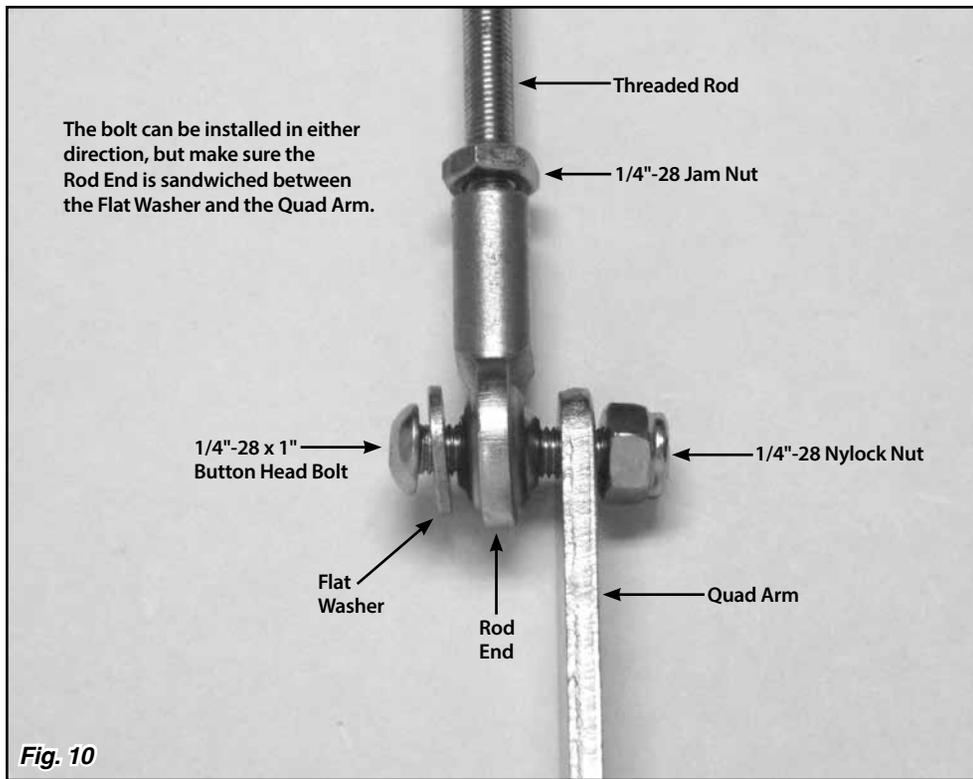

Fig. 10
Step 12: Verify that both 1/4"-28 jam nuts are on the long threaded rod. Thread one end of the long threaded rod into the rod end on the linkage arm, and install a rod end onto the opposite end of the long threaded rod. Attach that rod end to the **outside** of the quad arm using the 1/4"-28 x 1" button head bolt, flat washers, and nylock nuts as shown in **Fig. 10**. The 1/4"-28 x 1" button head bolt can be installed from either direction, but make sure the rod end is sandwiched between the flat washer and the quad arm.